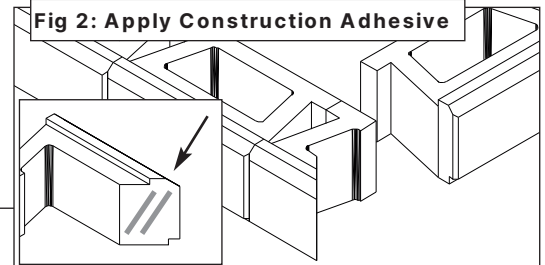

Fig 3: Fill Blocks with Wall Rock
- Carefully place Wall Rock in block cores and 12 in. (300 mm) behind blocks to lock them in position (Fig 3).